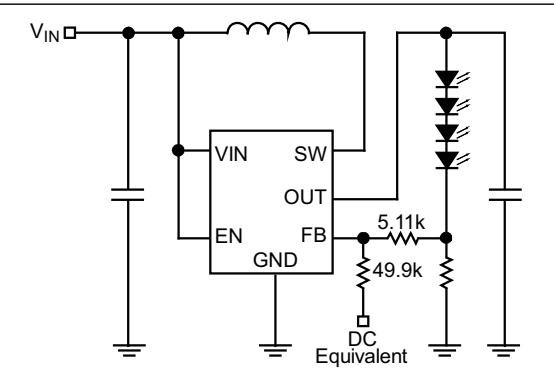

FIGURE 4-2: Continuous Dimming.
- Continuous dimming control is implemented by applying a DC control voltage to the FB pin of the MIC2289 through a series resistor as shown in Figure 4-2. The LED current is decreased proportionally with the amplitude of the control voltage. The LED intensity (current) can be dynamically varied applying a DC voltage to the FB pin. The DC voltage can come from a DAC signal, or a filtered PWM signal. The advantage of this approach is that a high frequency PWM signal (>10 kHz) can be used to control LED intensity.